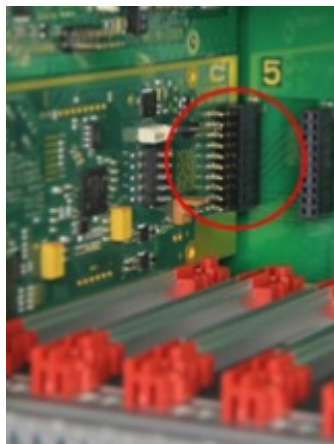

Figure 66. Option Card Mounted in a 21-Card Slide-In Chassis
5. Ensure that the connector pins are correctly plugged into the backplane and snap into place, and that the front panel of the USB 2.0 Only Option Card is fully seated against the chassis. See Figure 66.